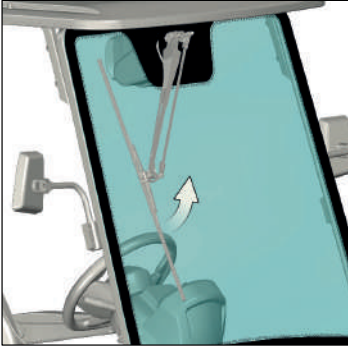

Figure 12-5 Lifting the wiper
- Lift the wiper by pulling it towards yourself (see Figure 12-5).